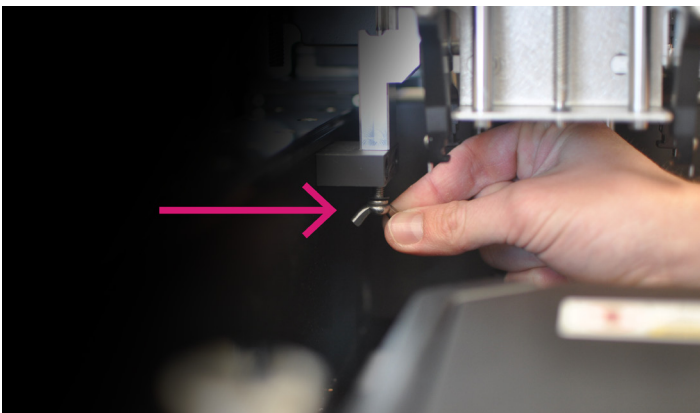

Figure 2: Shipping screw location
2. Place shipping screw back onto head in the parking position (as shown in figure 2).